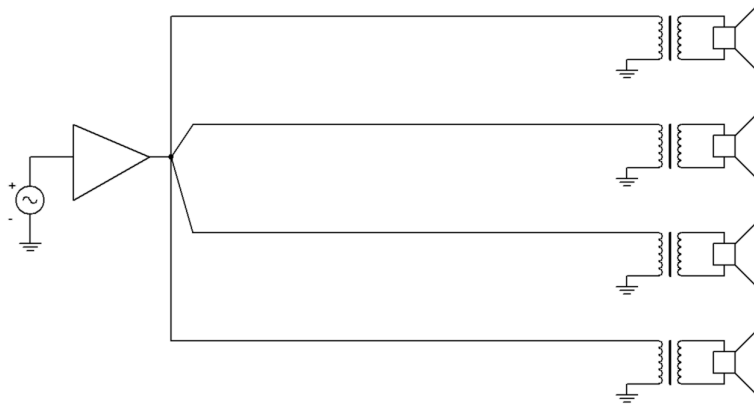

Figure 10.5
22. Consider the distributed public address system for an airport as shown in Figure 10.5. It consists of an audio power amplifier with a nominal 70 volt RMS output that is connected to four remote loudspeakers, each separate from the others and some 150 meters away from the amplifier. Each loudspeaker assembly includes a 10:1 voltage step-down transformer that feeds the loudspeaker impedance of $8\ \Omega$ (resistive) off its secondary. These four lines are fed in parallel by the amplifier. Determine the power delivered to each loudspeaker and the total current delivered by the power amplifier. Assume the transformers are ideal and ignore any cable resistance.